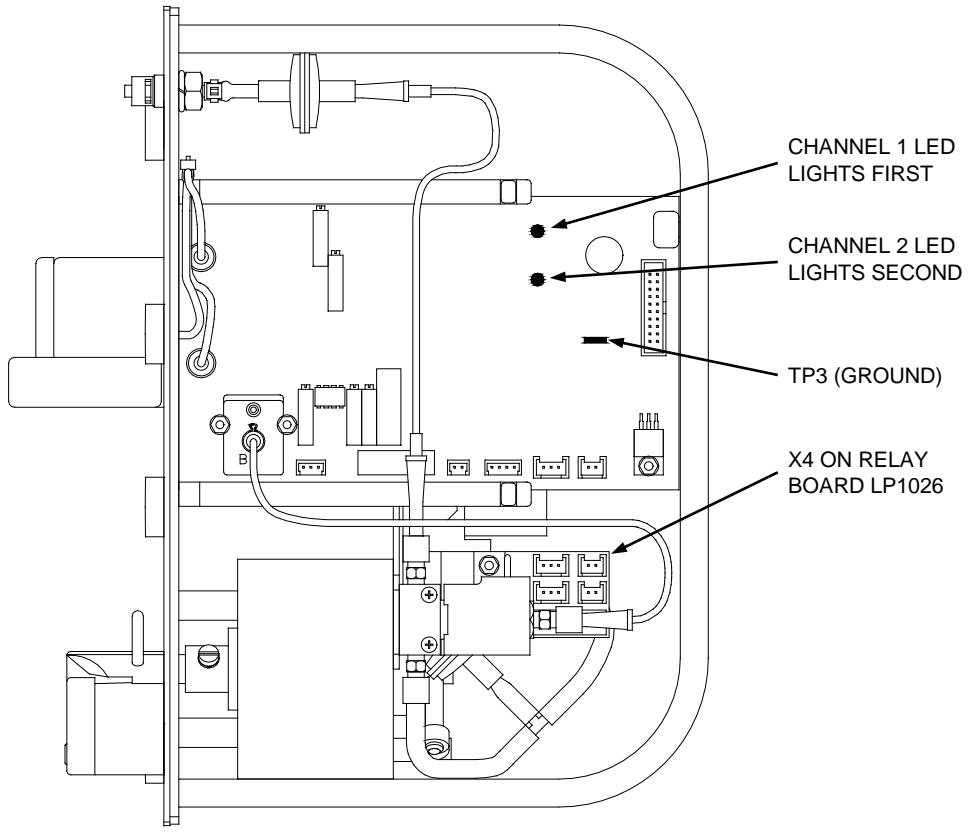

Figure 6 - Level Detector without Relay Contact Test LED's.
3. Position the Level Detector so you can watch the Channel 1 and Channel 2 LED's on the circuit board (See Figure 6 on page 16).
- Use **Method 3** if LP1026 is present and does not have LED's D3 & D4 (See Figure 6).